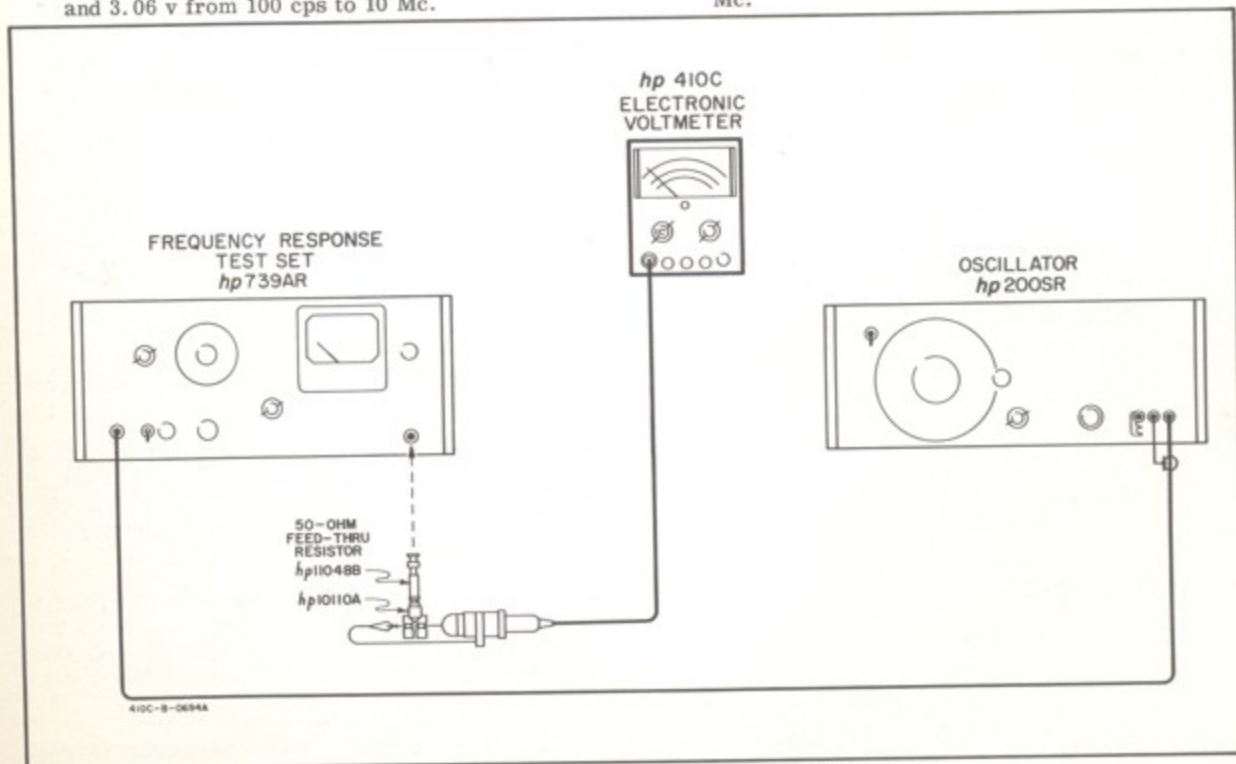

Figure 5-3. Low Frequency Response Test
b. Connect Model 410C as shown in Figure 5-3.
d. Replace VHF oscillator with UHF oscillator in Figure 5-3. Repeat steps b and c for UHF oscillator output frequencies from 480 Mc to 700 Mc.